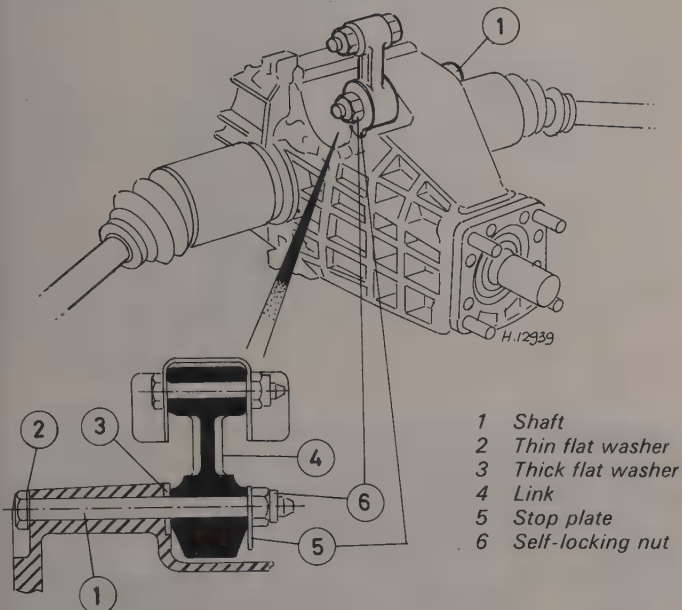

Fig. 8.3 Cross-section of link mounting for final drive unit (Sec 3)
- 17 Refitting is a reversal of removal, but tighten all nuts and bolts to the specified torque. Where applicable, make sure that the lower link mounting bolt washers are correctly assembled, as shown in Fig. 8.3. Where a bump stop is fitted to the bottom of the link tube, adjust it as described in Chapter 7. Refill the final drive unit with the correct grade